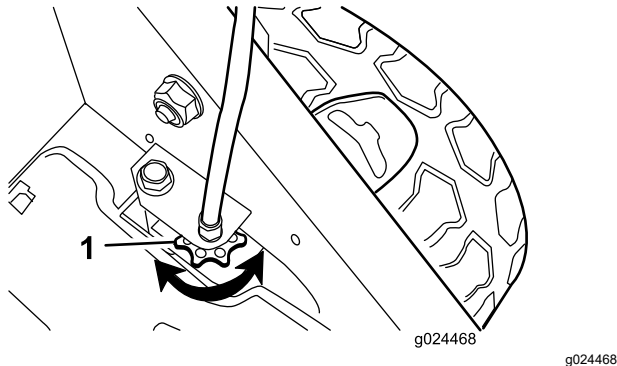

Figure 28
- If the wheels do not spin when you engage the self-propel-drive bar, the traction belt is too loose. Rotate the wheel-drive-control knob (Figure 28) clockwise 1 turn and repeat steps 4 through 6.
- If the wheels spin before you fully engage the self-propel-drive bar, the traction belt is too tight. Rotate the wheel-drive-control knob (Figure 28) counterclockwise 1 turn and repeat steps 4 through 6.